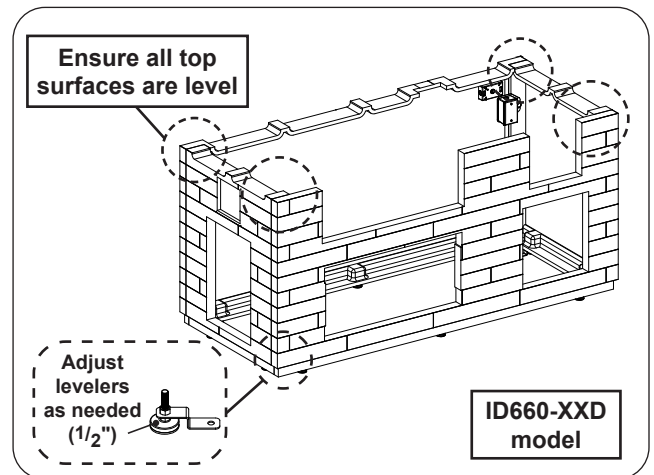

Fig. 9-2 Level assembly
1. Use a level to ensure the top surfaces of the assembly are level. The levelers at the bottom of the island may be adjusted as needed with a 1/2" open end wrench. See Fig. 9-2.